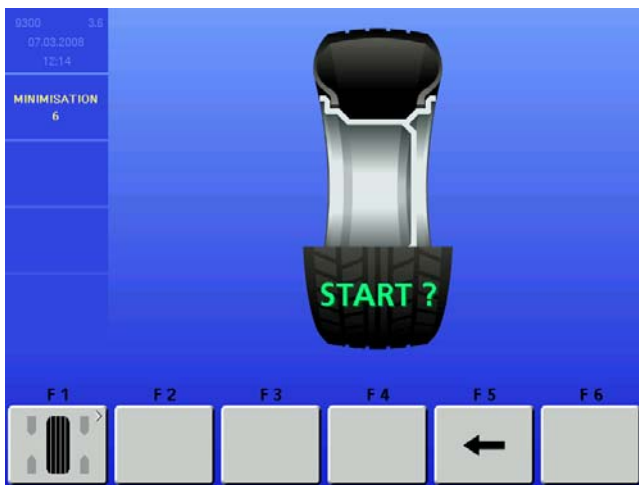

Figure 32
8. Select "Start" See Figure 32.